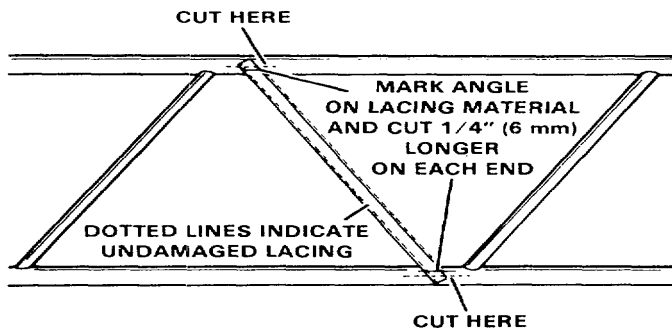

Figure 14-9. Cutting Replacement Lacings
4. When using bulk replacement lacings, cut the lacing to the proper length, which will be about 1/2 inch (12 mm) longer than is actually required so as to leave sufficient material for contour fitting. See Figure 14-9.
B. Cut at the points and at the angle shown in Figure 14-9.